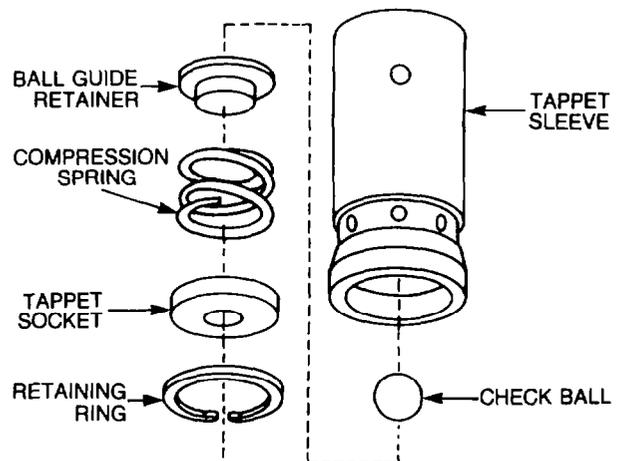

Figure 101 — Tappet Sleeve — Assembly
- g. Install the check ball, ball guide retainer, compression spring and tappet socket into the tappet sleeve and secure in position with the retaining ring (see Fig. 101).